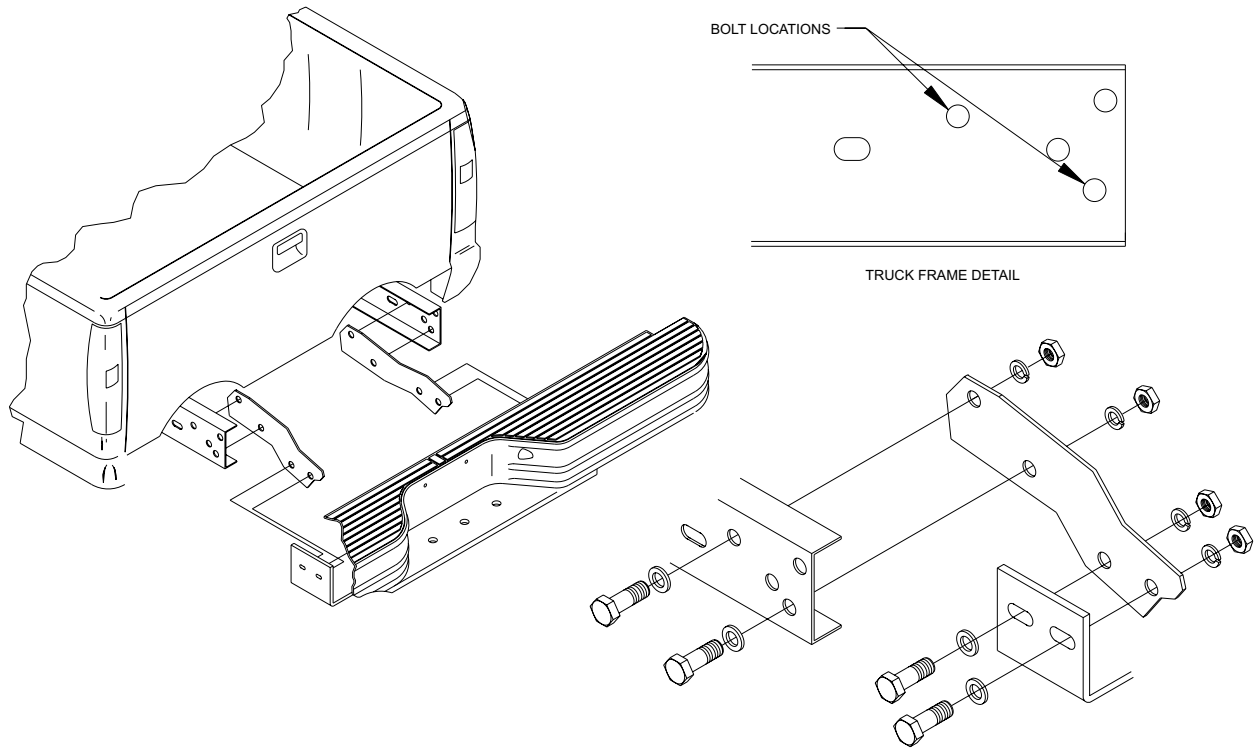

FIGURE 2
STEP 2: Install bumper onto mounting brackets with brackets inside of bumper hitch. See figure 2. Use remaining 1/2 inch hardware. **DO NOT TIGHTEN.**